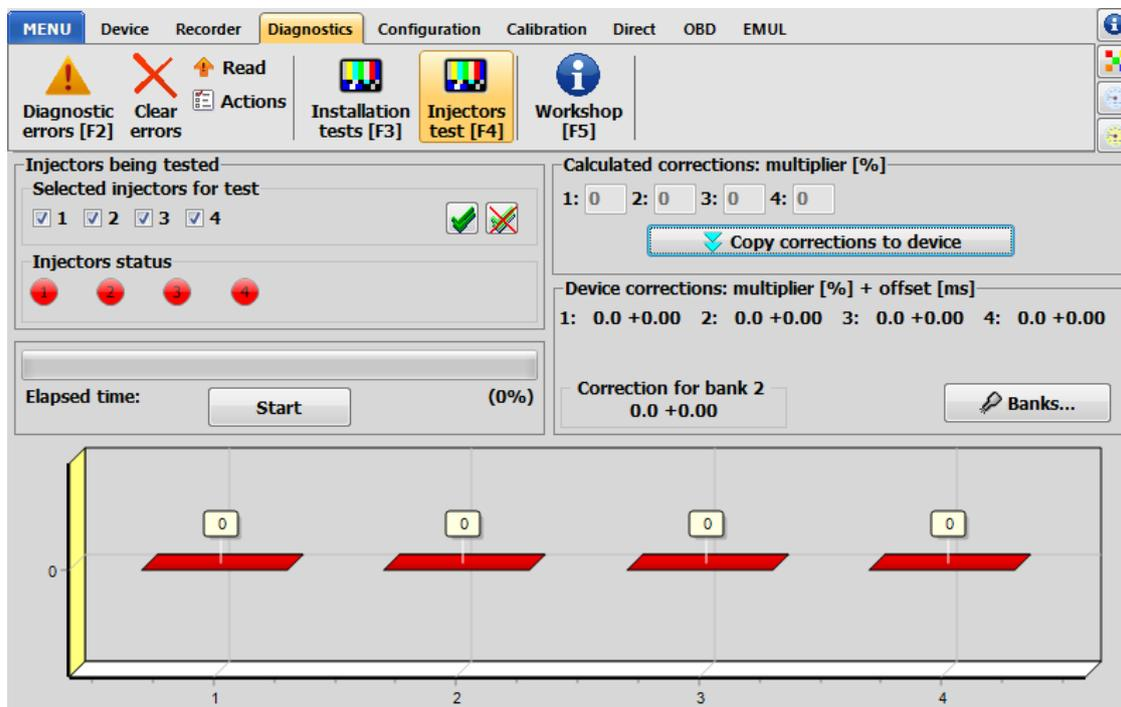

Fig. 2.46 Injector Test page
4. Open the injectors testing window [F4] (Fig. 2.46), select the cylinders to be tested (at the beginning of the tests, select all), press the "Start" button.